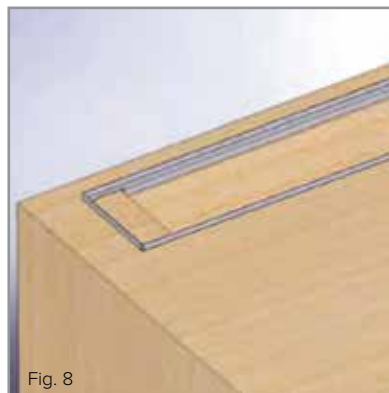

Fig. 8
6) Locate the support frame (trim piece); apply a narrow bead of silicone sealant to the underside of this (Fig. 7). Position this around the cut-out in the worktop (Fig. 8).